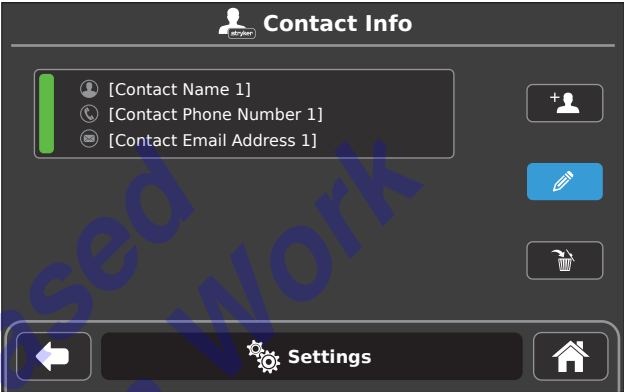

Figure 34 – Edit CONTACT INFO Information
3. From the CONTACT INFO screen, touch and select the desired contact information that requires editing (Figure 34).